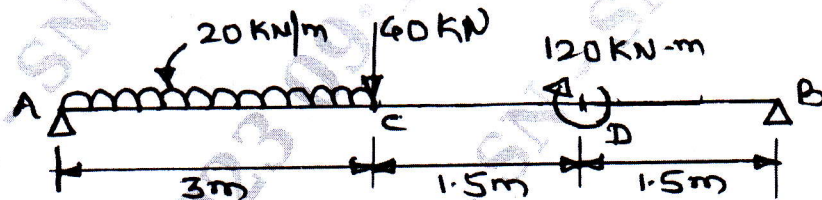

Fig.Q5(b)
- b. Draw the shear force and bending moment diagram for the beam shown in Fig.Q5(b).